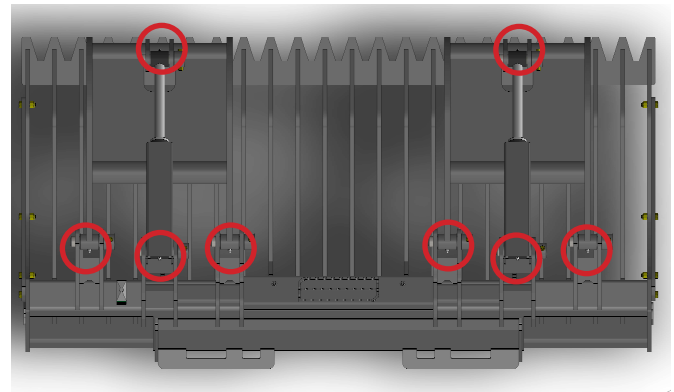

Figure 1
The Severe Duty Rock Bucket Grapples have eight (8) grease points. These points are circled in Figure 1.